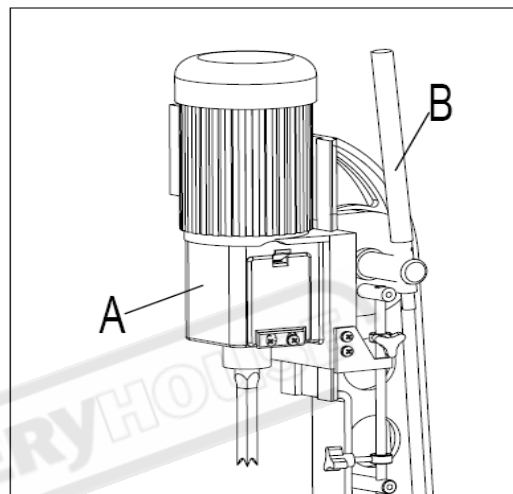

Fig 3
2. Raise mortising machine head (A) Fig. 3, to the up position by turning handle (B) clockwise.